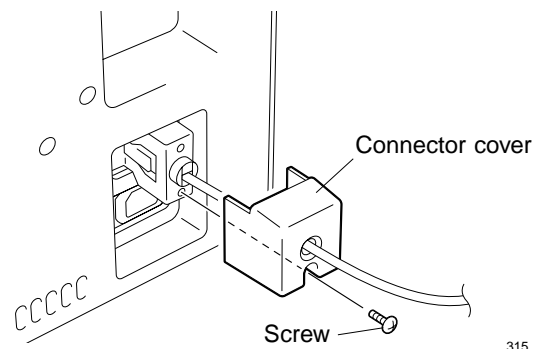

Fig. 6-4
1. Remove stapler. (See Fig. 6-4 to 6-7)
3. Remove stapler. (See Fig. 6-4 to 6-7)
- Remove stapler. (See Fig. 6-4 to 6-7)
- Remove stapler. (See FIG. 6-4 to 6-7)